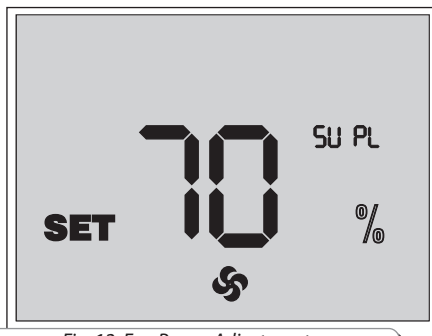

Fig. 12. Fan Power Adjustment
- To change the supply fan power press and hold the button and press the button to increase the speed or press the button to decrease it. Each press of the and buttons increases or decreases the supply fan power in 1 % increments. With the button pressed the display screen will indicate the current supply fan power (Fig. 12).